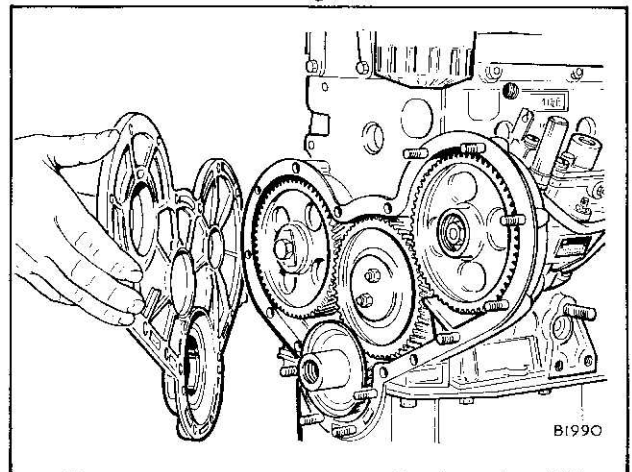

Fig. 2
5. Remove timing gear cover, Fig. 2.